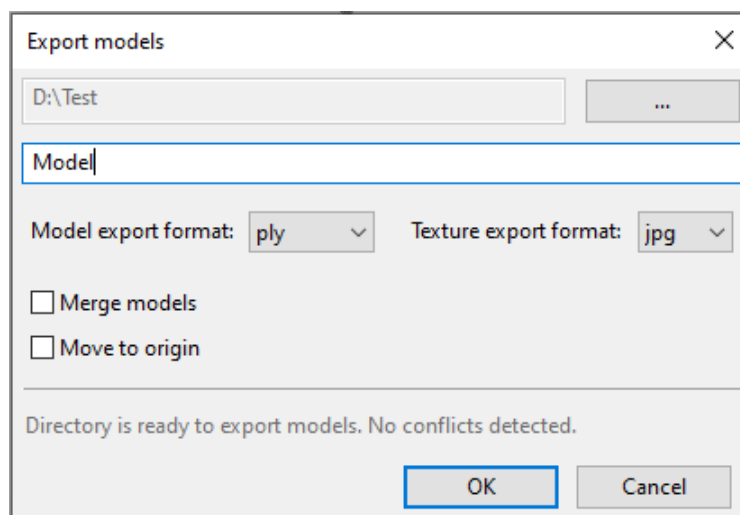

Figure 73: Dialog for exporting meshes.
2. Select the *File* → *Export* → *Meshes* command. A dialog window will appear (Figure 73).